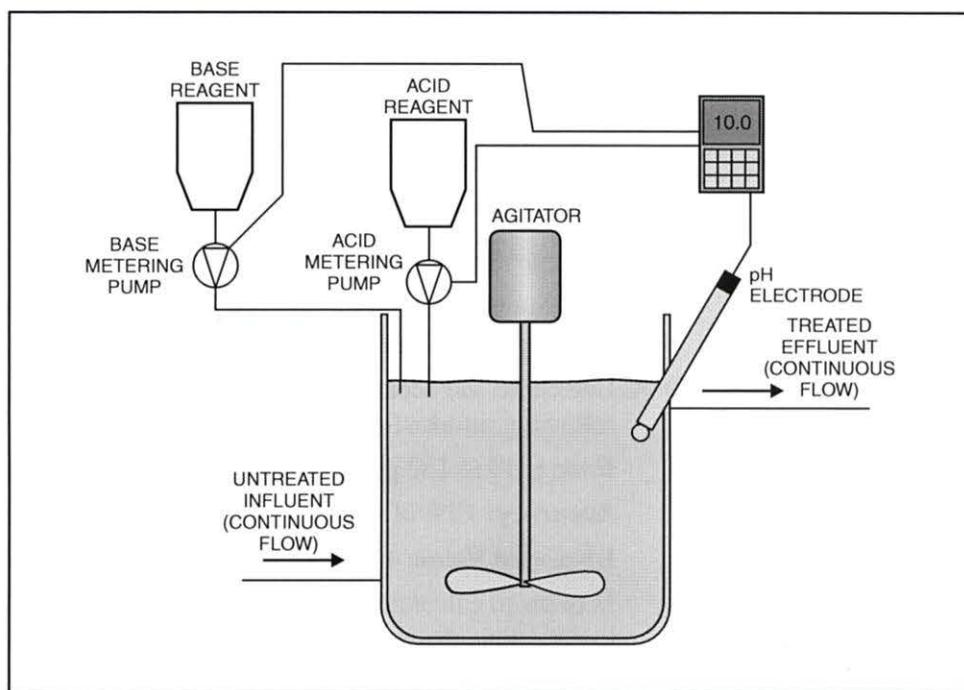

Figure 15. pH Control Process with a Range of 0.0 to 14.0 pH
6. Determine the accuracy of the pH control process shown in figure 15 as a percentage of the upper range value, given the following information: